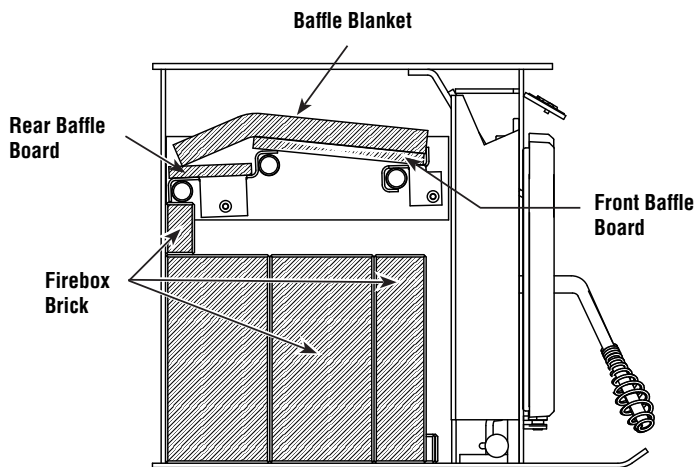

Figure 8
4. The final step of the baffle board & baffle blanket installation will be installing the front baffle boards. The front baffle boards will be the two remaining baffle boards which are the larger two baffle boards of the four baffle board kit. They will be installed with the 7-3/8" dimension from the front to rear of the firebox. Start by setting the back side of the board on the rear baffle making sure that it is placed far enough back to lift up and onto the front baffle. Next you will place the front edge of the front baffle boards on the top side of the front baffle and slide them towards the firebox front until it stops against the front baffle edge. You will do this with each front baffle board with one to the right side of the firebox and one to the left side of the firebox. Confirm that the baffle blanket is directly on top of the baffle boards and that it does not protrude beyond the front baffle or front baffle boards as shown in **Figure 8** (also see note on **Page 11**).